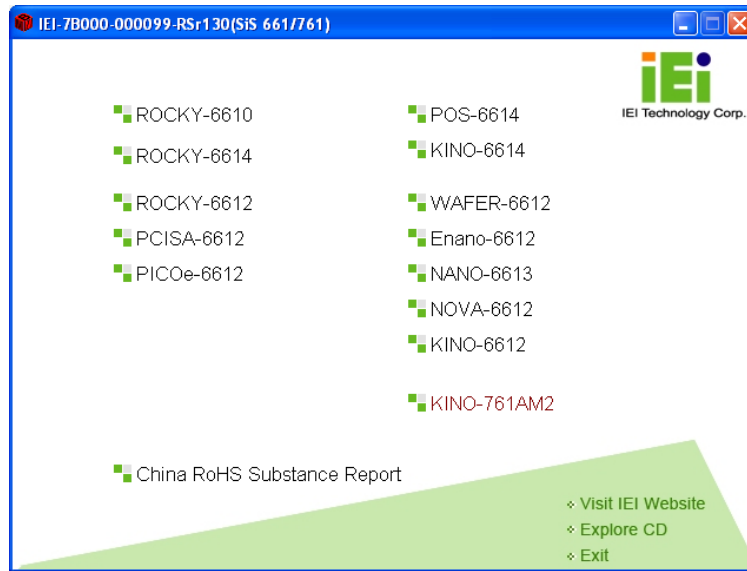

Figure 7-1: Introduction Screen
Step 2: The driver main menu appears (Figure 7-1).